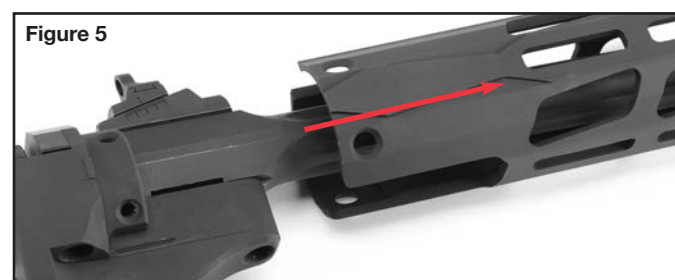

Figure 5
5. Carefully slide the handguard off the barrel. Be careful not to allow the handguard to contact the barrel as this could scratch the barrel. (See Figure 5.)